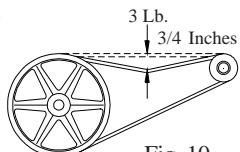

Fig. 10
- Check belt tension.** A 3 lb. force should deflect the belt 3/4 inches (see Fig. 10). Readjust belt if needed.